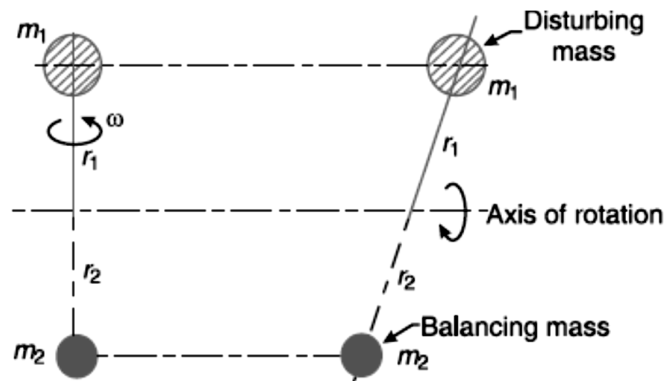

Figure Q1(c)
- c) Figure Q1(c) shows a single rotating disturbing mass, m_1 of 50 g with a radius of rotation, r_1 of 30 mm being balanced by a single mass, m_2 with a radius of rotation, r_2 of 45 mm rotating in the same plane;